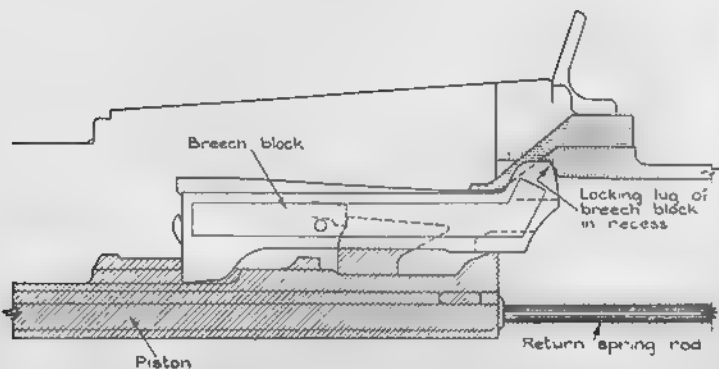

Fig 31.—The mechanism locked
6. As the piston goes forward, the rounded shoulder at its back lifts the back of the breech block, and pushes the locking lug up into the locking recess in the body; this locks the breech and gets the round properly into the chamber, before the piston post strikes the firing pin and fires the round (see Fig 31).